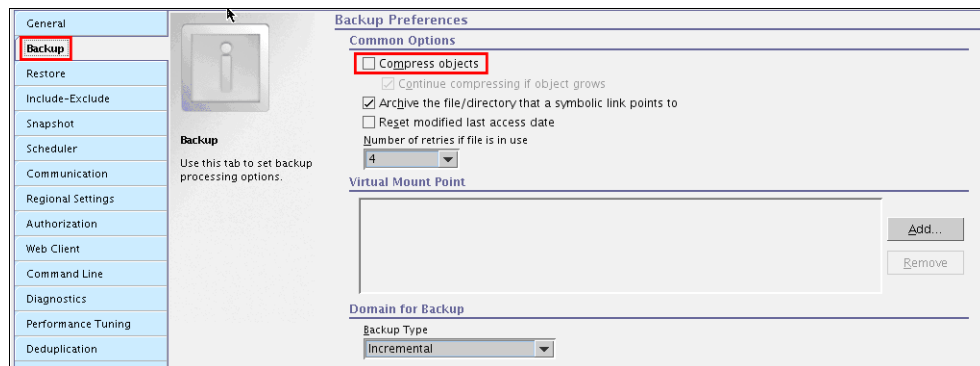

Figure 20-22 Backup Preferences window
4. From the menu at the left, click **Backup** (Figure 20-22). The Backup Preferences window opens.